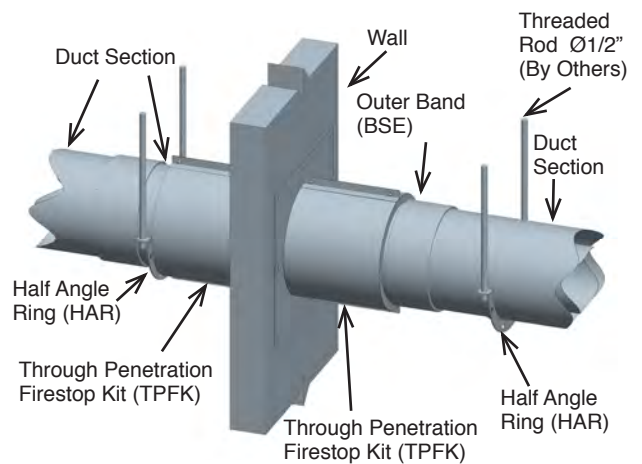
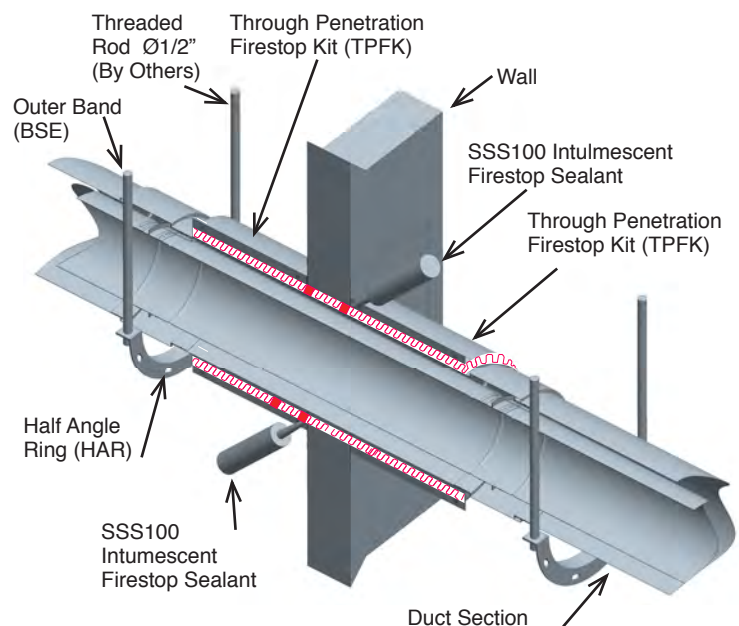

Figure 108: Supports for duct through fire-rated wall (DIS3Z only)
Figure 111: TPFK Assembled Through a fire-rated Wall (DIS3Z only)
Ducts that penetrate a fire-resistance wall (upto 2hr fire-rated) have to be supported on both side of the wall. It can either be supported by bracing a HAR, a AP or APL. See Figure 108.
- For Wall Penetration, use two TPFK's. See **Figure 111** and **Figure 108**.
NOTE: The cover plates, wrap insulation and split closure bands are installed on the top surface of a floor penetration and on both surfaces of a wall penetration. See Figure 111 for the penetration through a wall.